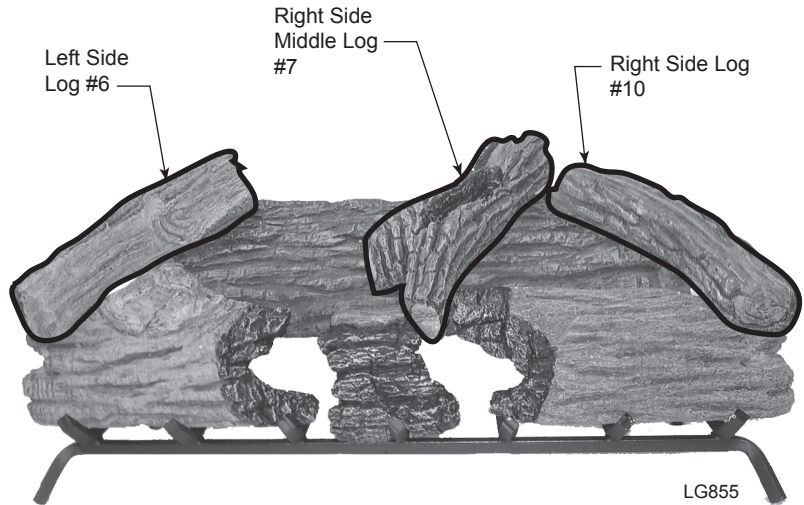

Figure 37 -
- 6. Install left side log #6. *Figure 37*
- 7. Install right side middle log #7. *Figure 37*
- 8. Install right side log #10. *Figure 37*